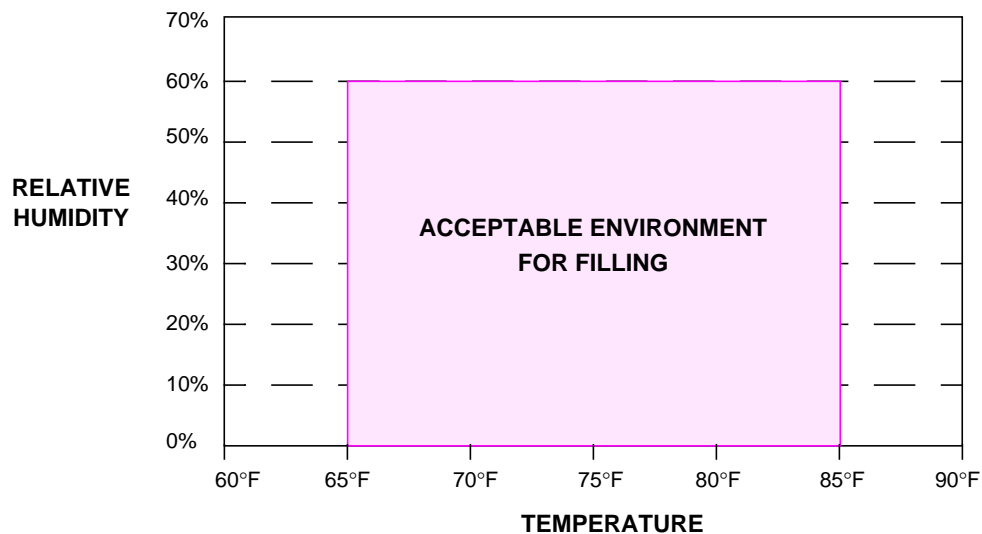

FIGURE 1 - TEMPERATURE AND HUMIDITY LIMITS
- 6.2.1 Maintain the temperature and relative humidity of the filling areas within the range specified in Figure 1.